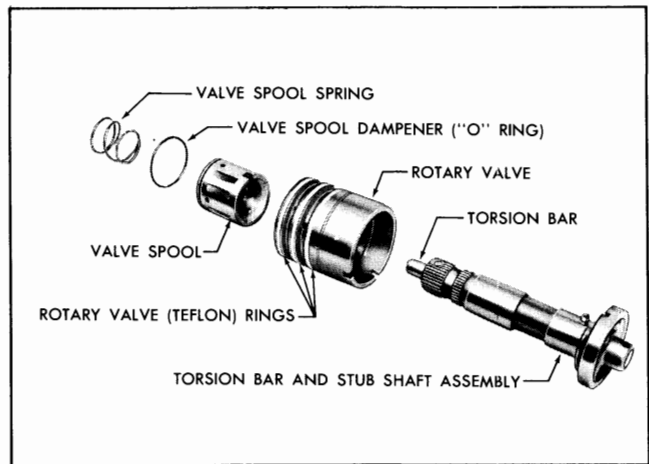

Fig. 9A-16 Rotary Valve—Exploded View
CAUTION: The diametrical clearance between the valve body and the spool may be as low as .0004". The slightest cocking of the spool may jam it in the valve body (Fig. 9A-15).
4. Remove stub shaft, torsion bar (small diameter bar extending through stub shaft) and valve cap assembly by tapping end of torsion bar lightly with a plastic hammer. This will dislodge the cap from valve body cap pin. See Fig. 9A-16. Do not disassemble stub shaft assembly. The parts are pinned together and are serviced as an assembly.